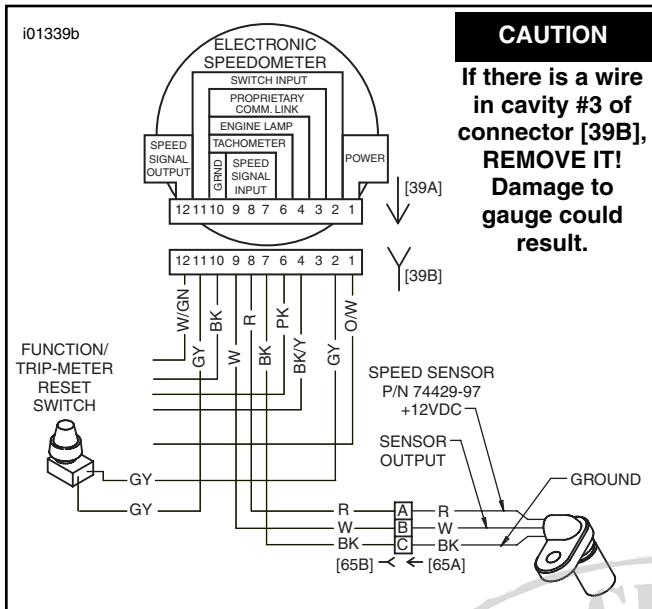

Figure 1. Wire Connections At New Speedometer.
6. See Figure 1. Verify that new connector [39B] is wired as shown. Plug connector [39B] into the new speedometer/tachometer.